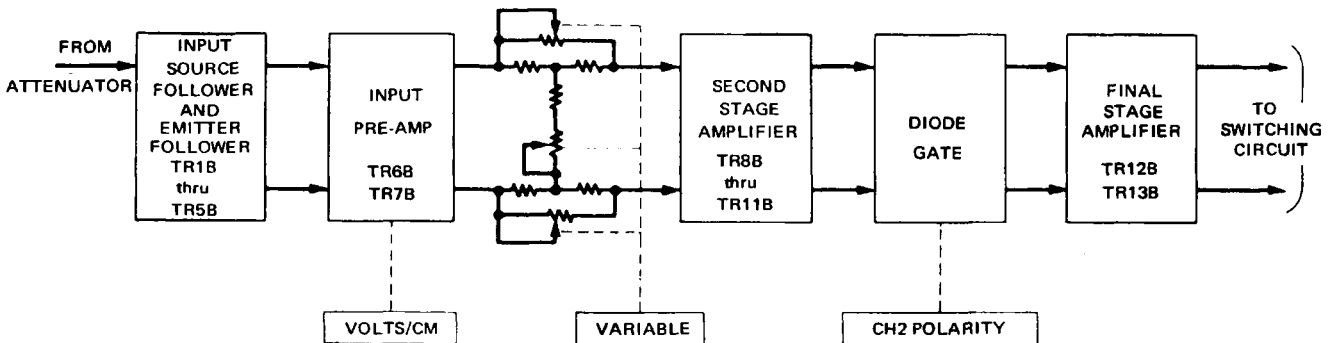

Figure 3-3 Channel 2 Preamplifier Block Diagram
d. Channel 2 Preamplifier (Schematic 3). The Channel 2 preamplifier (See Figure 3-3) is identical to the Channel 1 preamplifier up to the output of the second amplifier stage. At this point, a diode network is inserted to provide polarity inversion capability. When CH 2 POLARITY switch is in the NORM position, D35B, D36B, D37B, and D38B are on and D33B, D34B, D39B, and D40B are all off. In this configuration the output of TR10B is connected to the base of TR12B and the output of TR11B is connected to the base of TR13B. When S31B is in the INV position, the diodes which were formerly on turn off and the off diodes turn on. The signal connection is now reversed, and signal polarity at the preamplifier output is inverted. Screwdriver adjustment R85B balances amplifier to minimize trace shift when switching from normal to inverted polarity.